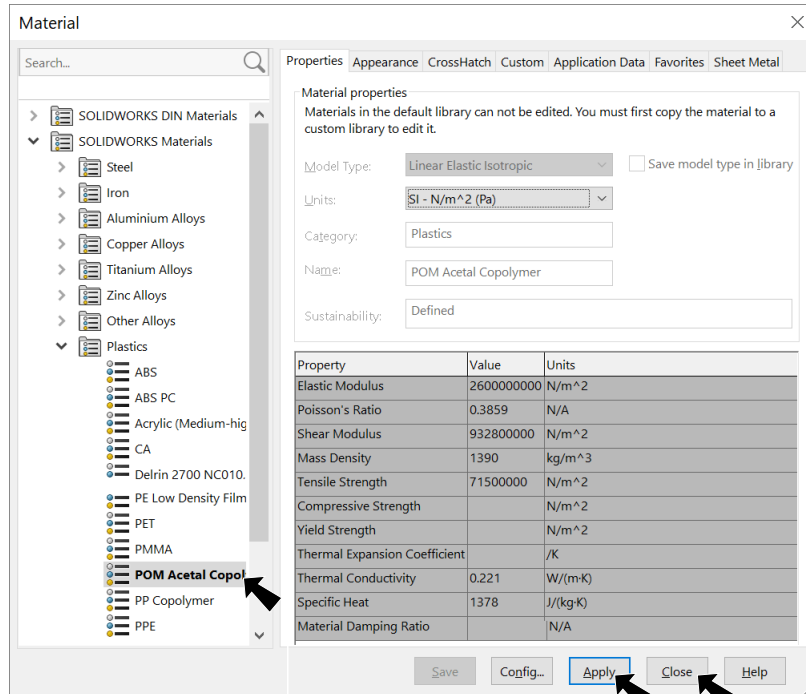

Fig. 24
Step 2. Expand **Plastics** in the material tree and select **POM Acetal Copolymer**, Fig. 24. Click **Apply** and **Close**.